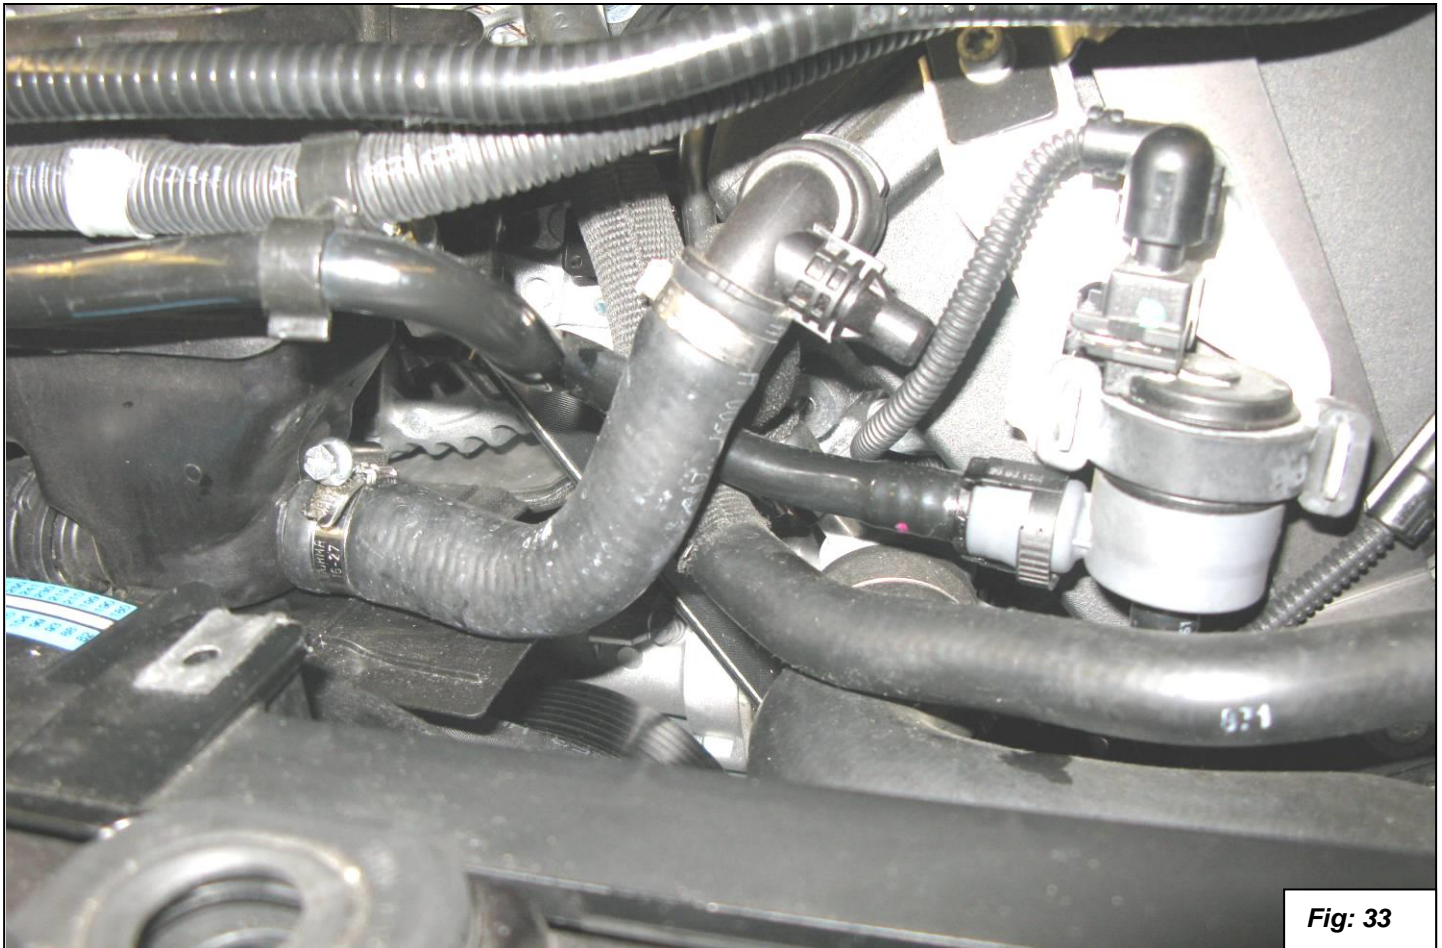

Fig: 33
24. The large end of the hose goes onto the reservoir bottle using the worm clamp. Install it to the reservoir and the intercooler as shown in figure 33.